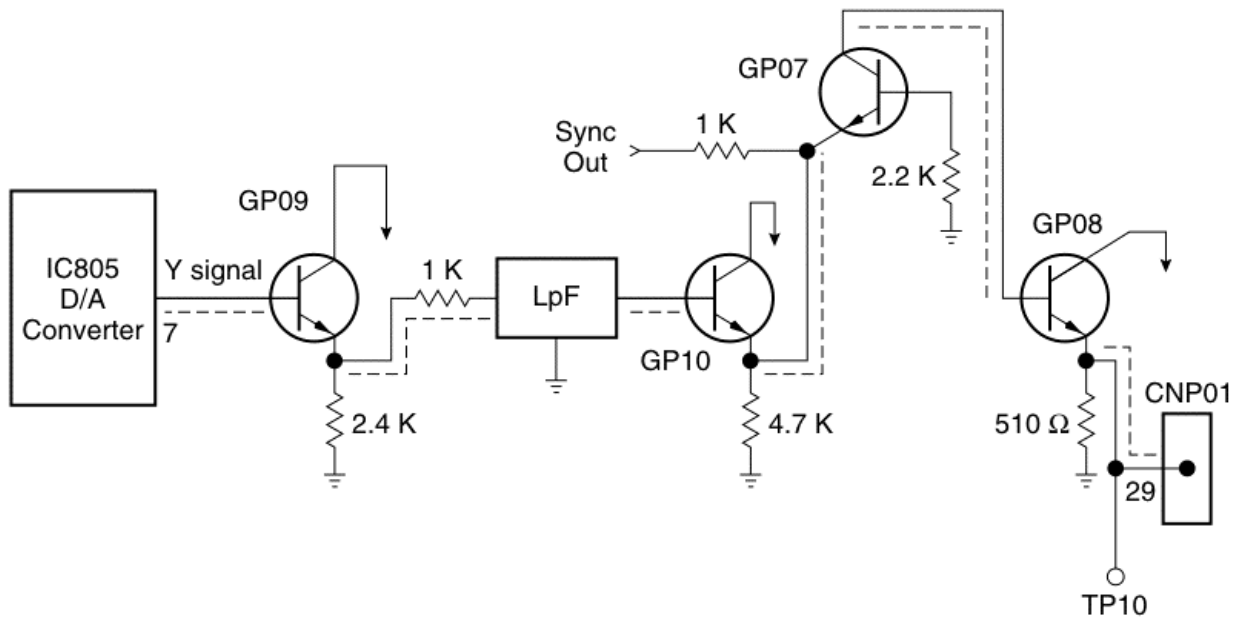

FIGURE 34-8 A typical VHS-C luma-processing circuit.
The luminance output signal from D/A converter (pin 7) couples directly to buffer transistor GP09. This Y signal is taken from the emitter terminal of GP09, fed through a low-pass filter (LPF) to the base of buffer transistor GP10 (Fig. 34-8). The output Y signal from emitter of GP10 is mixed with the sync output at transistor amp GP07. The collector terminal of GP07 connects directly to the base terminal of buffer amp GP08. The camera Y signal at pin 29 of GP08 is fed to the video VTR circuits. A test point (10) can be taken with the scope to determine if the luminance (Y) signal is present.